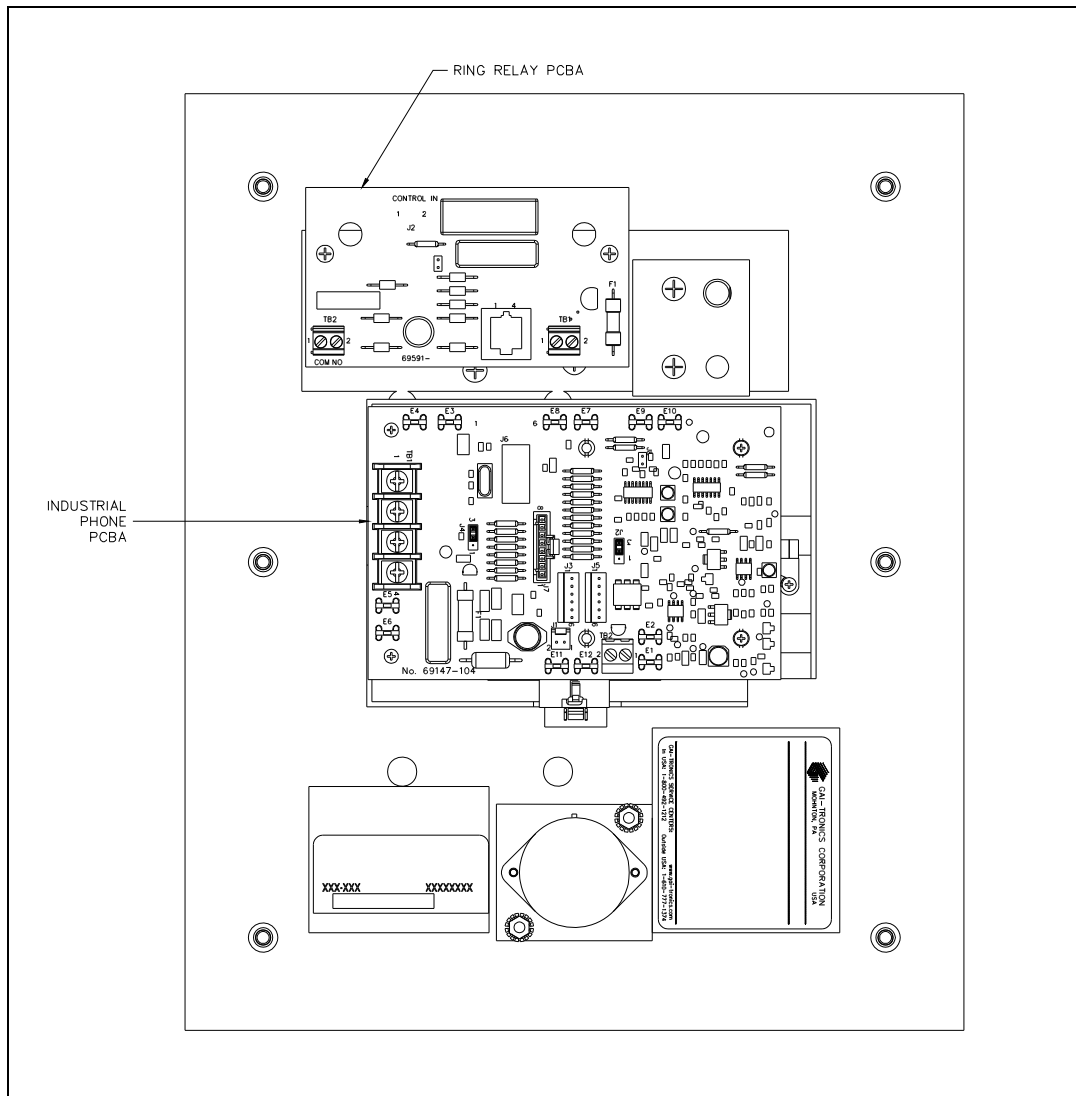

Figure 5.
3. Install the two 6-32 × 1.25-inches F/F standoffs (provided) onto the two weld studs on the back of the panel. See Figure 5.